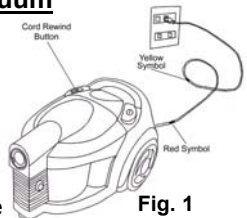

Fig. 1
1. Insert the power plug into the wall outlet. (Fig. 1)